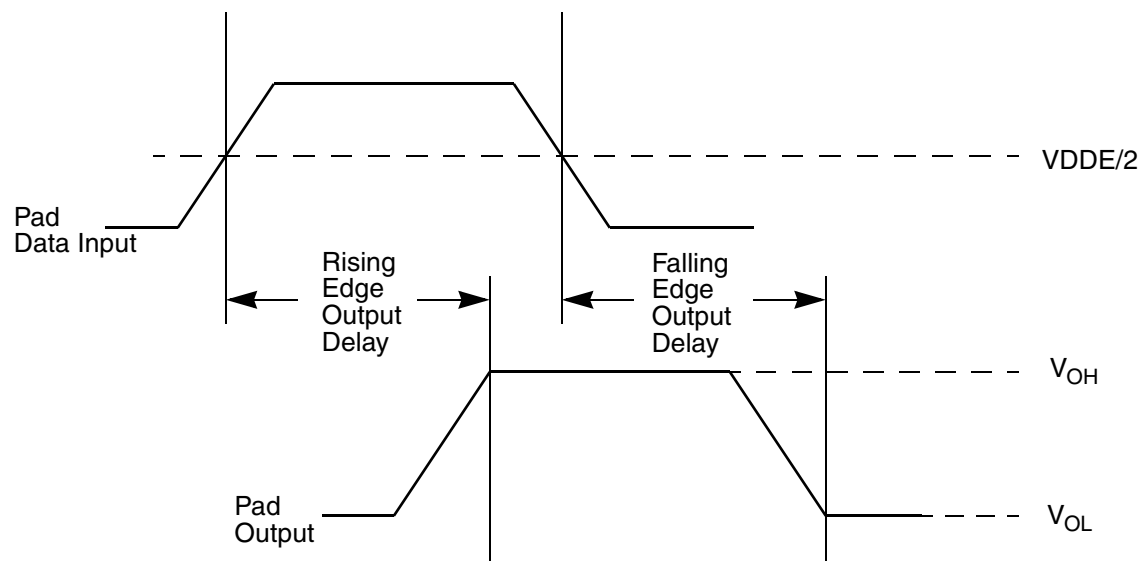

Figure 8. Pad Output Delay
8 Output delay is shown in Figure 8. Add a maximum of one system clock to the output delay for delay with respect to system clock.
- 7 Output delay is shown in Figure 8. Add a maximum of one system clock to the output delay for delay with respect to system clock.